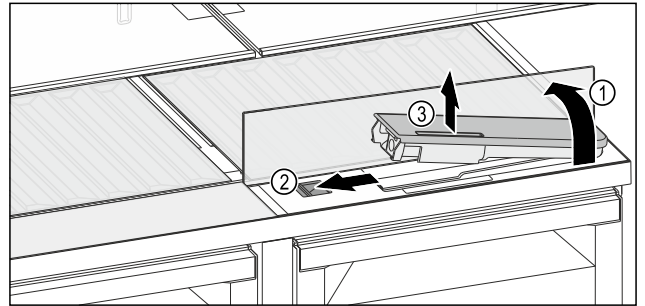

Fig. 131
- ▶ Lift the glass panel and fold towards the rear until it clicks into place Fig. 131 (1).
- ▶ Slide the slider Fig. 131 (2) to the left.
- ▶ Remove the water tank Fig. 131 (3).